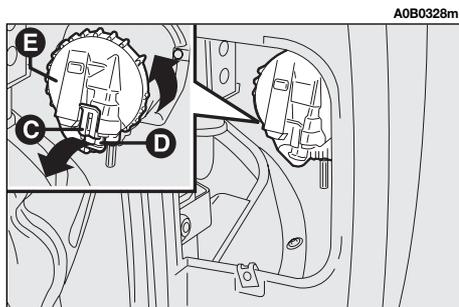

fig. 34
- Release catch (**C-fig. 34**) and disconnect connector (**D**) from the light unit.
– Refit cover (**E-fig. 34**) and reconnect connector (**D-fig. 34**) to the light unit.